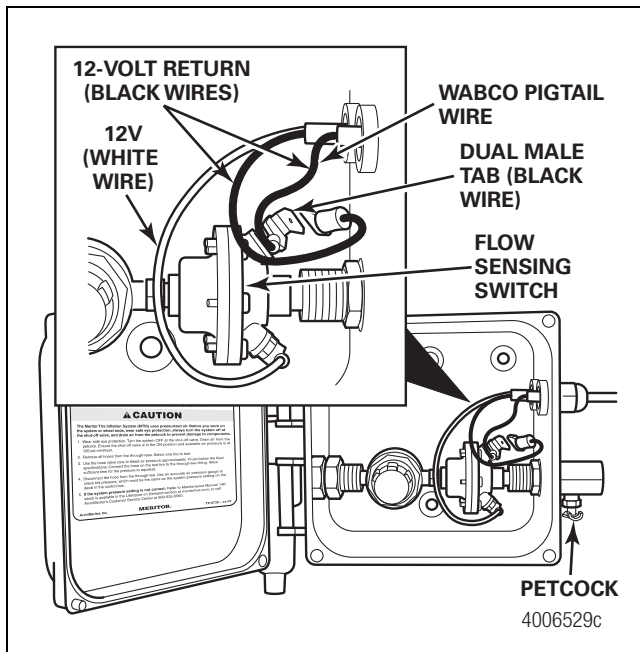
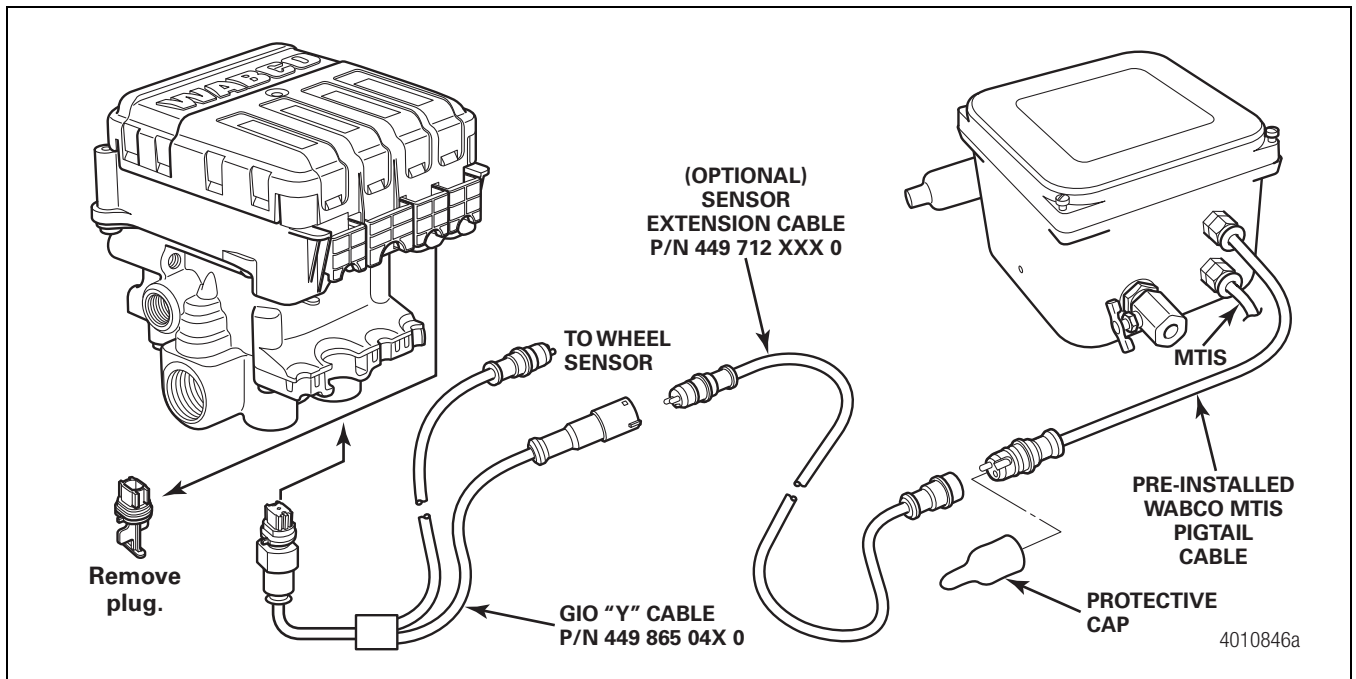

Figure 1
Figure 2
3. Install the MTIS control box with the WABCO MTIS pre-installed pigtail cable. Figure 1.
4. Insert the black and white wires of the MTIS electrical cable through the unused black locknut and into the MTIS box. Figure 1. Turn the black locknut CLOCKWISE to fasten securely. Figure 2.
5. Fasten the 12-volt return (black) wire terminal of the MTIS electrical cable onto the dual male tab as shown in Figure 1. Confirm that the 12-volt return (black) wire terminal of the WABCO MTIS pigtail cable is attached to the flow sensing switch as shown in Figure 1.
6. Fasten the 12-volt (white) wire of the MTIS electrical cable terminal onto the tab on the opposite side (bottom shown) of the flow sensing switch. Figure 1.
7. Remove the protective caps from the WABCO MTIS pigtail cable and the GIO "Y" cable. Figure 2.
8. Connect the WABCO MTIS pigtail cable to the optional sensor extension cable. Figure 2.
9. Connect the optional sensor extension cable to the GIO "Y" cable. Figure 2.